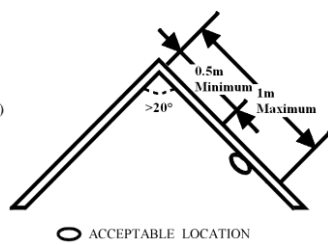

Figure 5:
- If some of your rooms have sloped, peaked, or gabled ceilings (>20°) then the distance between the peak and the mounting point of the smoke detector shall be 0.5 – 1 m, measured along the peaked ceiling as shown in **Figure 5**.